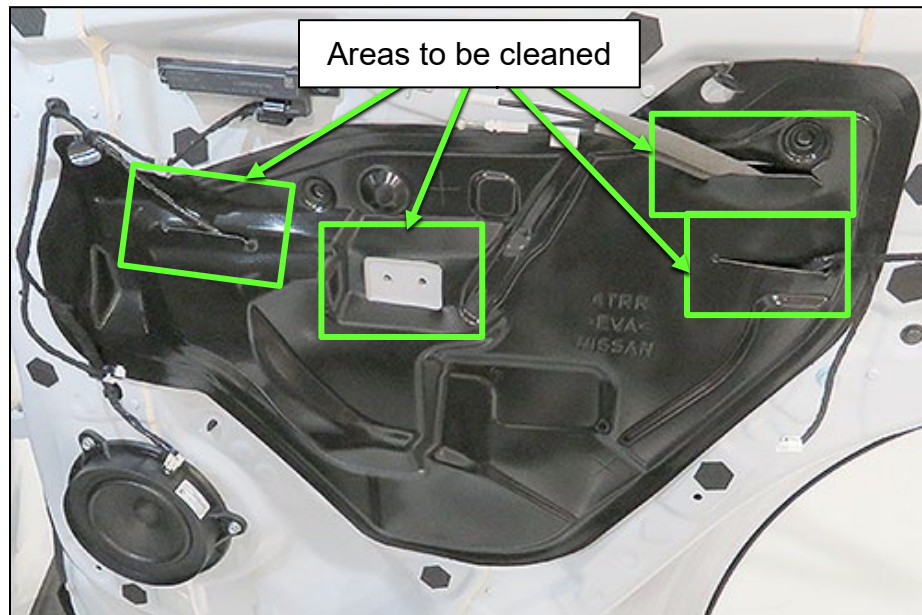

Figure 11
15. Use 80-220 grit sandpaper to scuff the four (4) areas shown in Figure 11.
16. Clean the door seal surface in the four (4) areas shown in Figure 11 with alcohol.